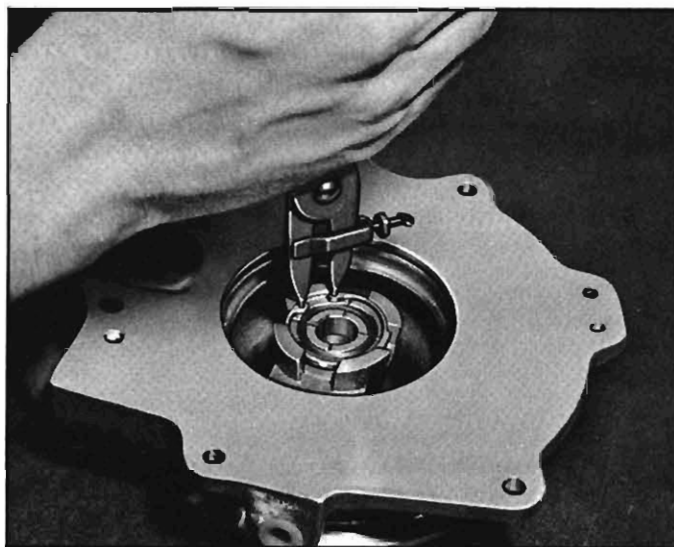

Fig. 45—Removing Bearing Retainer Ring
9. Remove the bearing retainer ring (fig. 45), then remove the bearing and shim.